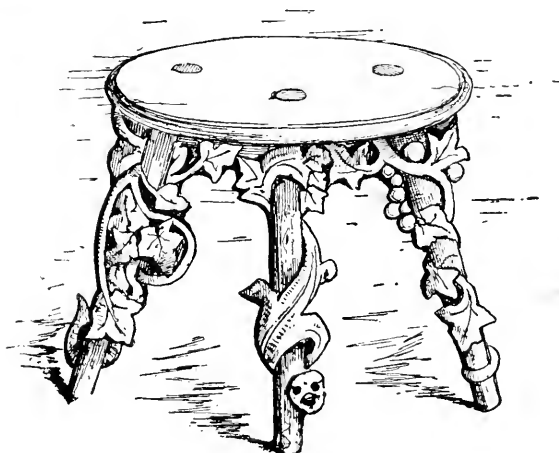

Fig. 83. THREE-LEGGED STOOL.
*Three-legged, or Milking Stools.* These are commonly carved on the seat. Ornaments may be carved and better applied as in Fig. 83.